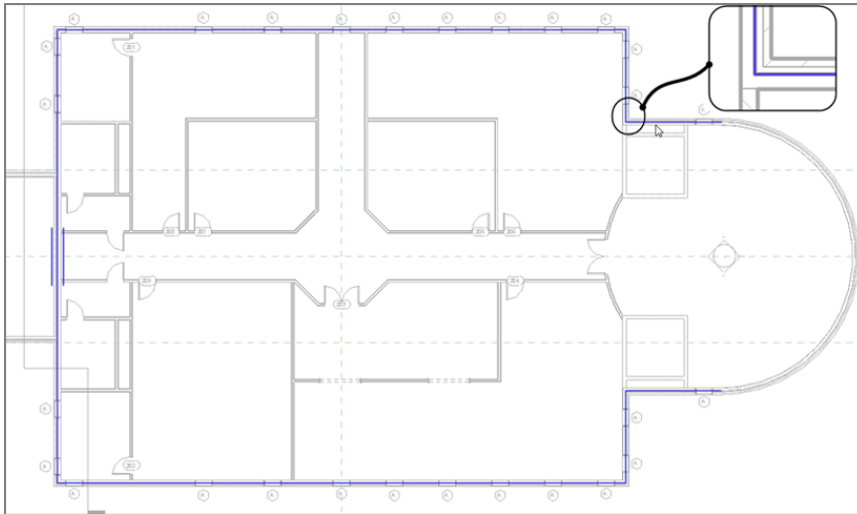

FIGURE 6.26: Picking the core centerline of the exterior walls, except the radial east wall
- 2.** Start picking walls, as shown in Figure 6.26. Do *not* pick the radial wall at the east entry.